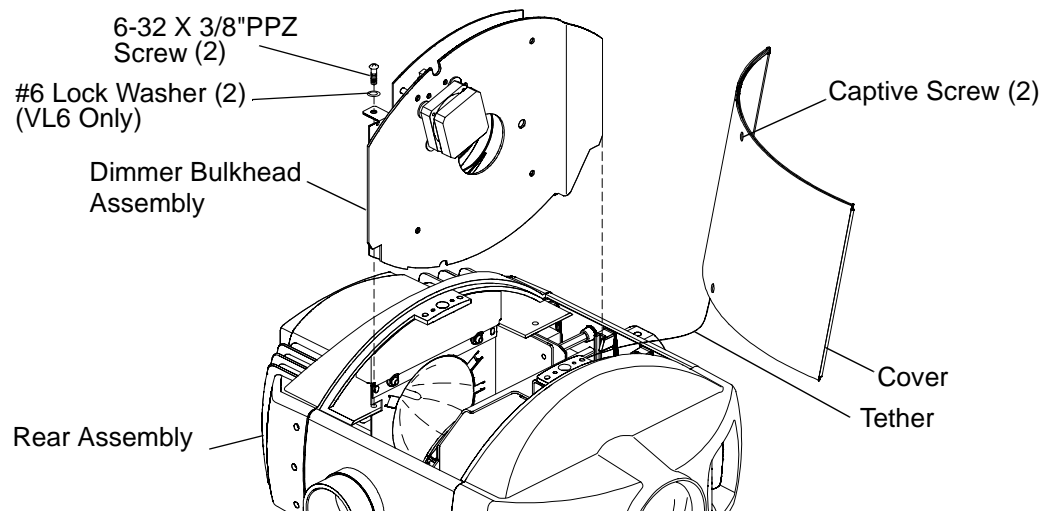

Figure 2-5: Dimmer Bulkhead Assembly Replacement
- Step 2. At head assembly, using #2 Phillips screwdriver, turn two captive screws one-quarter turn and remove cover. (It will remain attached by tether.) **Figure 2-5.**
- Step 4. At dimmer bulkhead assembly, using #2 Phillips screwdriver, remove two 6-32 X 3/8" PPZ screws and two #6 lock washers (washers in VL6 luminaire only) securing dimmer bulkhead assembly to rear assembly. **Figure 2-5.**